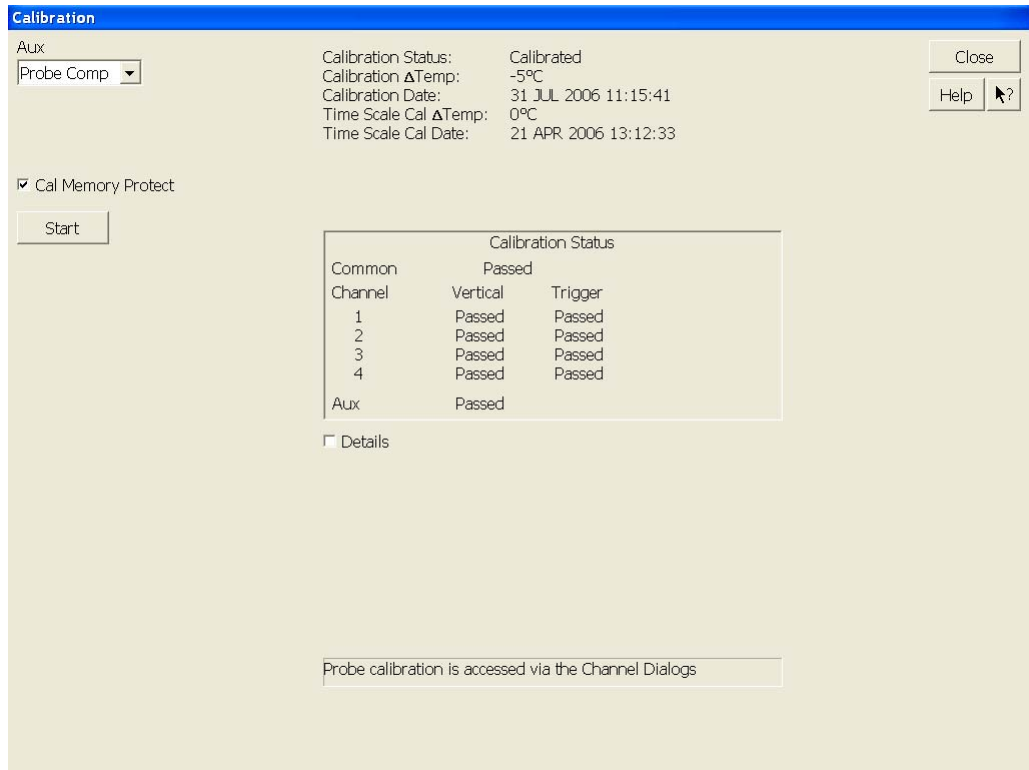

Figure 98 Oscilloscope Calibration Window
- 4 Referring to Figure 98 below, perform the following steps to start the calibration: